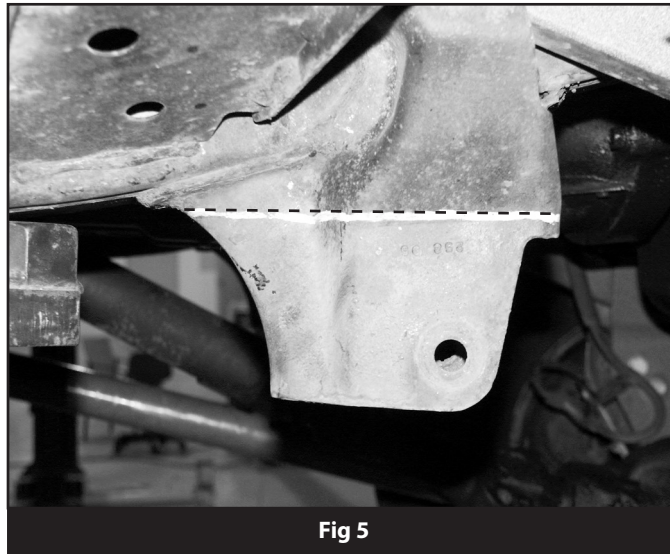

Fig 5
16. Mark a line parallel with the frame on the lower control arm pockets and cut old pockets off. (Fig. 5)